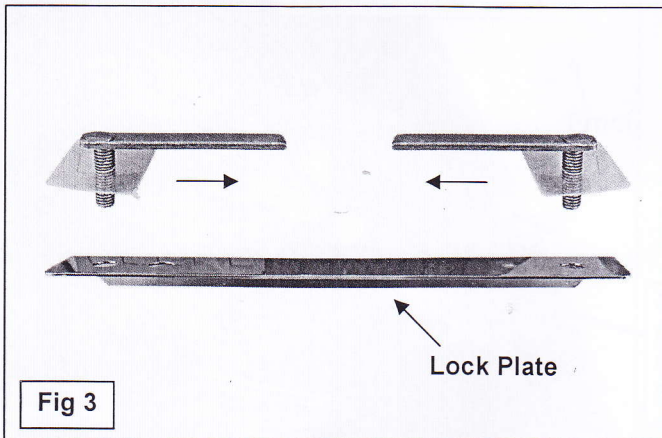
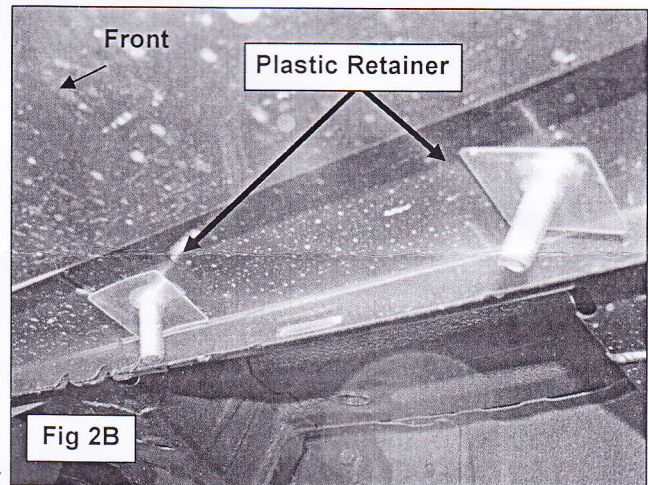

Fig 3
Fig 2B
4. Insert (1) Bolt Plate into the first-forward hole with the plate pointed toward the rear of the vehicle, (Figure 2B). Thread the Plastic Retainer down tight against the body panel. Repeat to install the next Bolt Plate into the second hole with the Plate pointed toward the front of the vehicle, (Figure 3). IMPORTANT: The Plates on the (2) Bolt Plates must be pointed toward each other.
5. Select (1) Lock Plate, **(Figure 3)**. Slide the Lock Plate over the (2) Bolt Plates with the bent side toward the pinch weld. Attach the Lock Plate to the rear Bolt Plate only with (1) 10mm Flat Washer, (1) 10mm Lock Washer and (1) 10mm Hex Nut, **(Figure 4)**. Tighten the Hex Nut at this time.